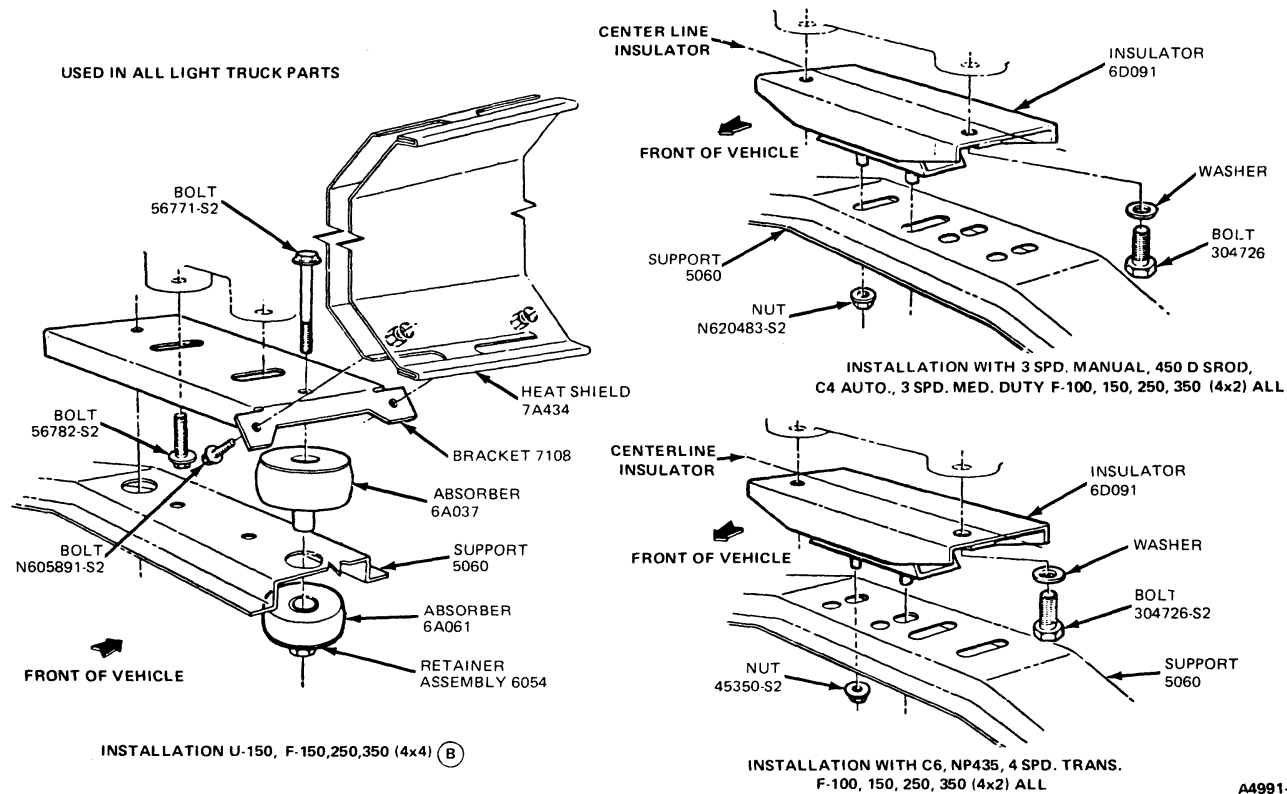

FIG. 10 Rear Support and Insulator F-150—F-350 and Bronco
The various rear supports and insulators are illustrated in Figs. 10 and 11. Note the location of the attaching bolt holes before removing a damaged or worn part as some components have holes for other applications.
1. Remove the insulator to support assembly bolt and locknut (Fig. 10).
1. Position the insulator and retainer to the transmission housing and install the attaching bolts and lockwashers, using the holes noted on removal (Fig. 10). Tighten to specification.